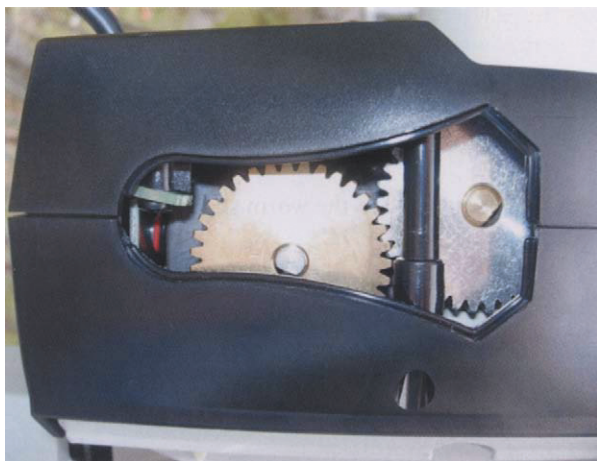

Figure 4.19. Drive cogs in the motor housing.
1. Remove the side plastic panel on the motor unit to reveal the inner drive cogs (Figure 4.19).